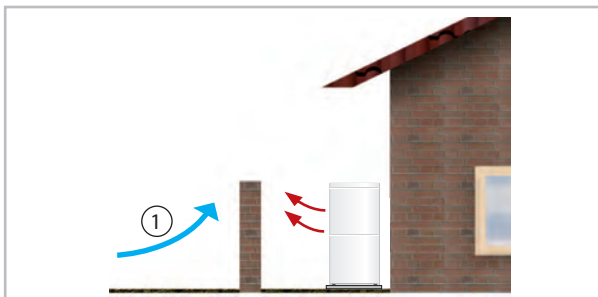
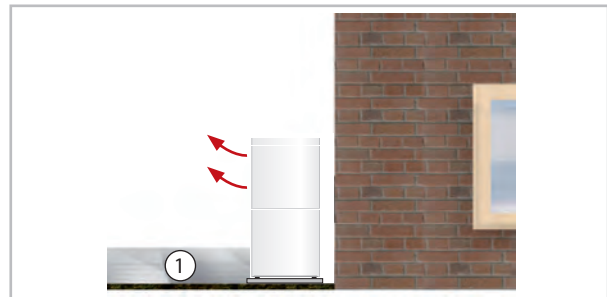

Fig. 35: Protection against wind
Fig. 36: Protection against snow
- If the unit is erected in an area of strong winds, then it must be protected against them and additional stabilisation is recommended. This can be realised for example with wire ropes or other constructions (Fig. 35). The snow line is to be observed during installation (Fig. 36).
- During installation, add about 20 cm to the expected snow depth to guarantee unimpeded intake and exhaust of outdoor air year round (Fig. 36).